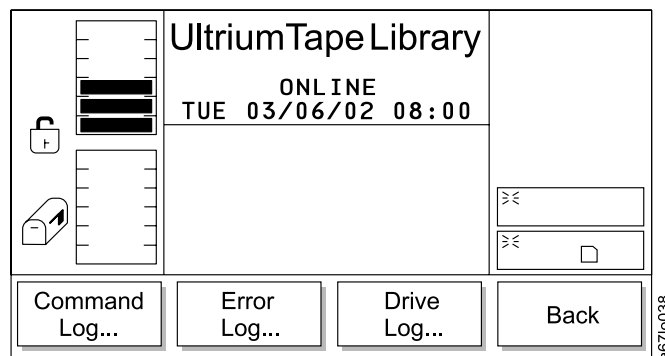

Figure 96. Logs Submenu
- If **Logs** is selected, the Logs Submenu displays (see Figure 96 on page 99).
- If **Cancel** is selected, the Logs Submenu displays (see Figure 96 on page 99).